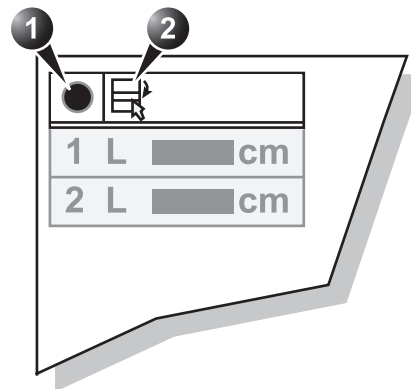

Figure 6-6: Measurement result table display tools
1. Trackball to the symbol  on the heading of the *Measurement result table* (see Figure 6-6).